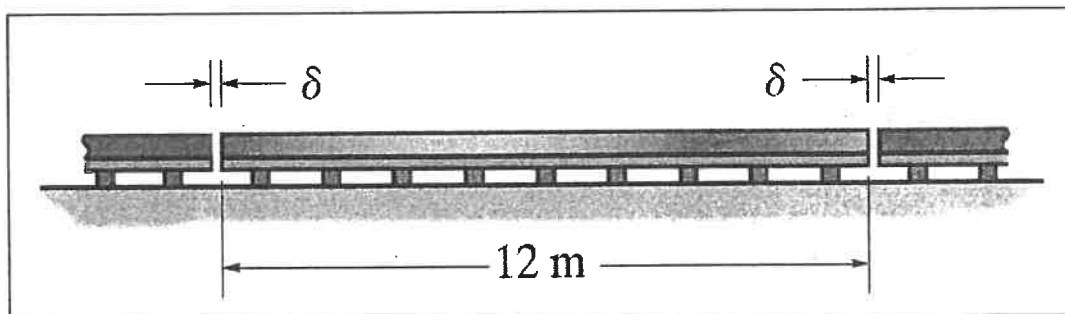

Figure 5
- (b) The 12 m long A-36 steel rails on a train track are laid with a small gap between them to allow for thermal expansion as shown in Figure 5. The cross-sectional area of each rail is 3200 mm^2 . Temperature is increased from $T_1 = -30 \text{ }^\circ\text{C}$ to $T_2 = 30 \text{ }^\circ\text{C}$, calculate;